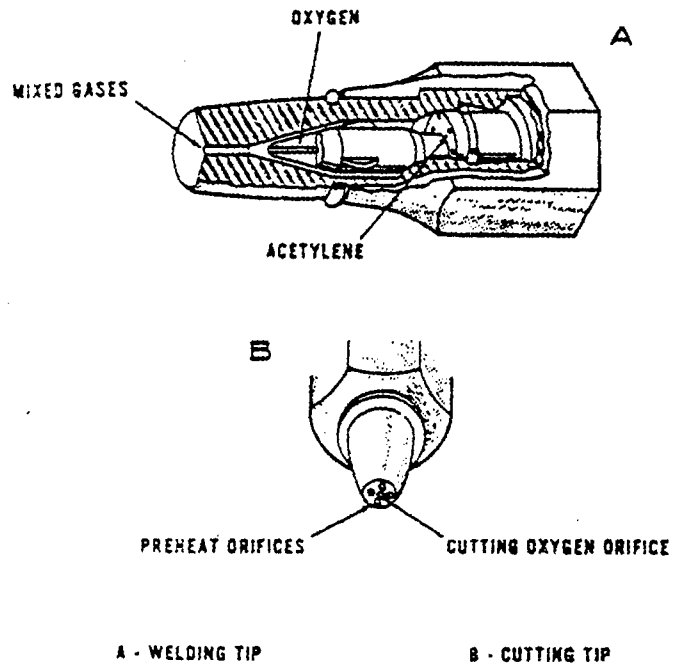

Fig. 3-9 Cutting Tip
- a. Cutting tips are made of copper or of tellurium-copper alloys. Whether you use a cutting torch or a cutting attachment to the welding handle, the cutting tip will be of the same general design as that shown in **Figure 3-9 and 3-10.** Notice that the cutting tip has several small orifices which surround a larger center orifice. The small orifices are for the oxyacetylene flames which are used to preheat the metal to its ignition temperature. The large center orifice is used to direct the jet or stream of high pressure oxygen that does the cutting. There are usually four or six preheat orifices in a typical cutting tip.